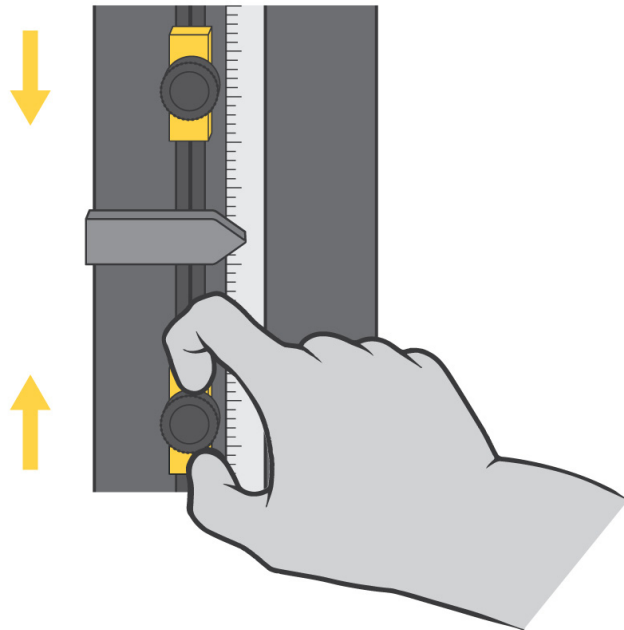

Figure 11. Setting Limit Stops
The crosshead limit stops are two adjustable blocks mounted on the limit switch rod, which is located inside the column of the machine, as shown in Figure 11 on page 90. Limit stops (1 and 2) have thumbscrews that you tighten and release by hand, and you can move them to any position on the limit rod. Position these stops just beyond the test parameters to prevent crosshead over-travel. When the crosshead reaches the maximum pre-set travel, the limit switch actuator (3) contacts one of these stops. Contact between the limit actuator and the limit stop moves the limit switch rod (4) and activates the limit switches. This stops crosshead motion.